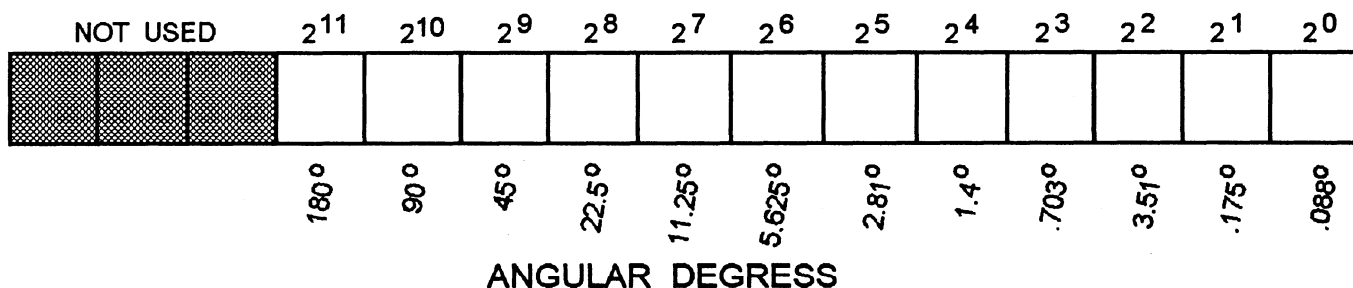

Figure 13-3.—A 12-bit binary angular measurement (BAM) word.
BAM data words are specifically designed to indicate up to 360 degrees of angular values in binary form, often in **steps** or **increments** of as small as 0.009766 degree (the LSB value). Figure 13-3 shows one example of a BAM word. This 12-bit word ( $2^0$ - $2^{11}$ ) can indicate 360 degrees of angle in steps of 0.088 degree. The LSB is equal to 0.088 degree when set (ONE), while the MSB is equal to 180 degrees when set. When all 12 bits are set, a maximum angle of 359.902 degrees is indicated. ZERO or 360 degrees is indicated when all bits in the BAM data word are clear (ZEROS).
**Octant Determination.**— The 5-wire synchro signal (R1, R2, S1, S2, and S3) is first converted into two dc voltages representing the sine and cosine of the synchro angle. The polarity of the sine and cosine voltages and their respective amplitude to each other are used to select the octant that defines the three most significant bits of the BAM word (figure 13-3).